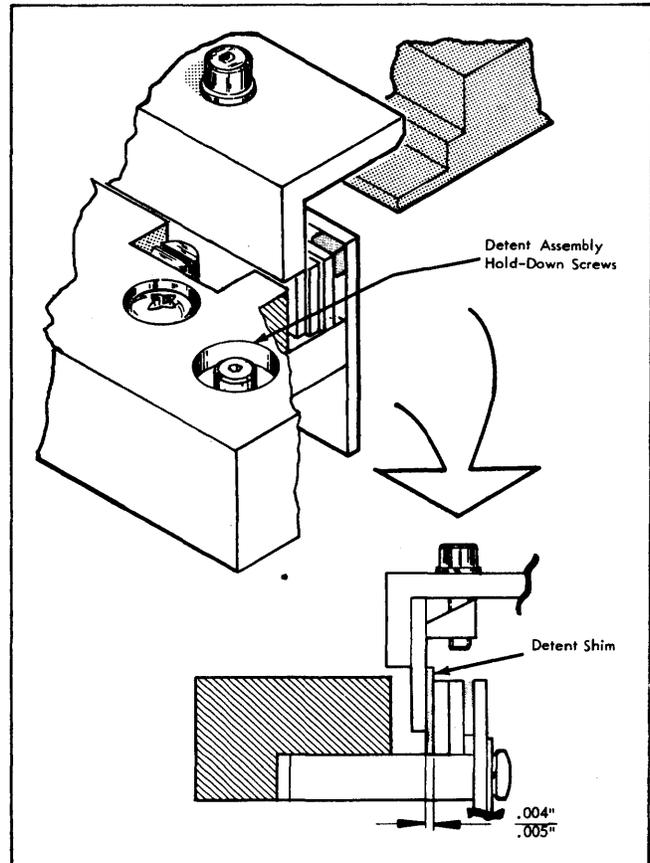

Figure 5-13. Positioning of Detent and Mask Assemblies (9480-12)
9480-12 DETENT ASSEMBLY (Refer to figure 5-13)**NOTE**
- c. As you assemble, place detent shim between fixed mask on detent assembly and mask assembly on carriage (figure 5-13 so that 1" or less is protruding towards spindle).